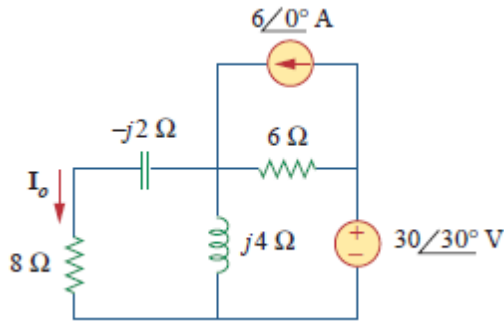

Fig.11
b) Find in Fig. 11 using mesh analysis